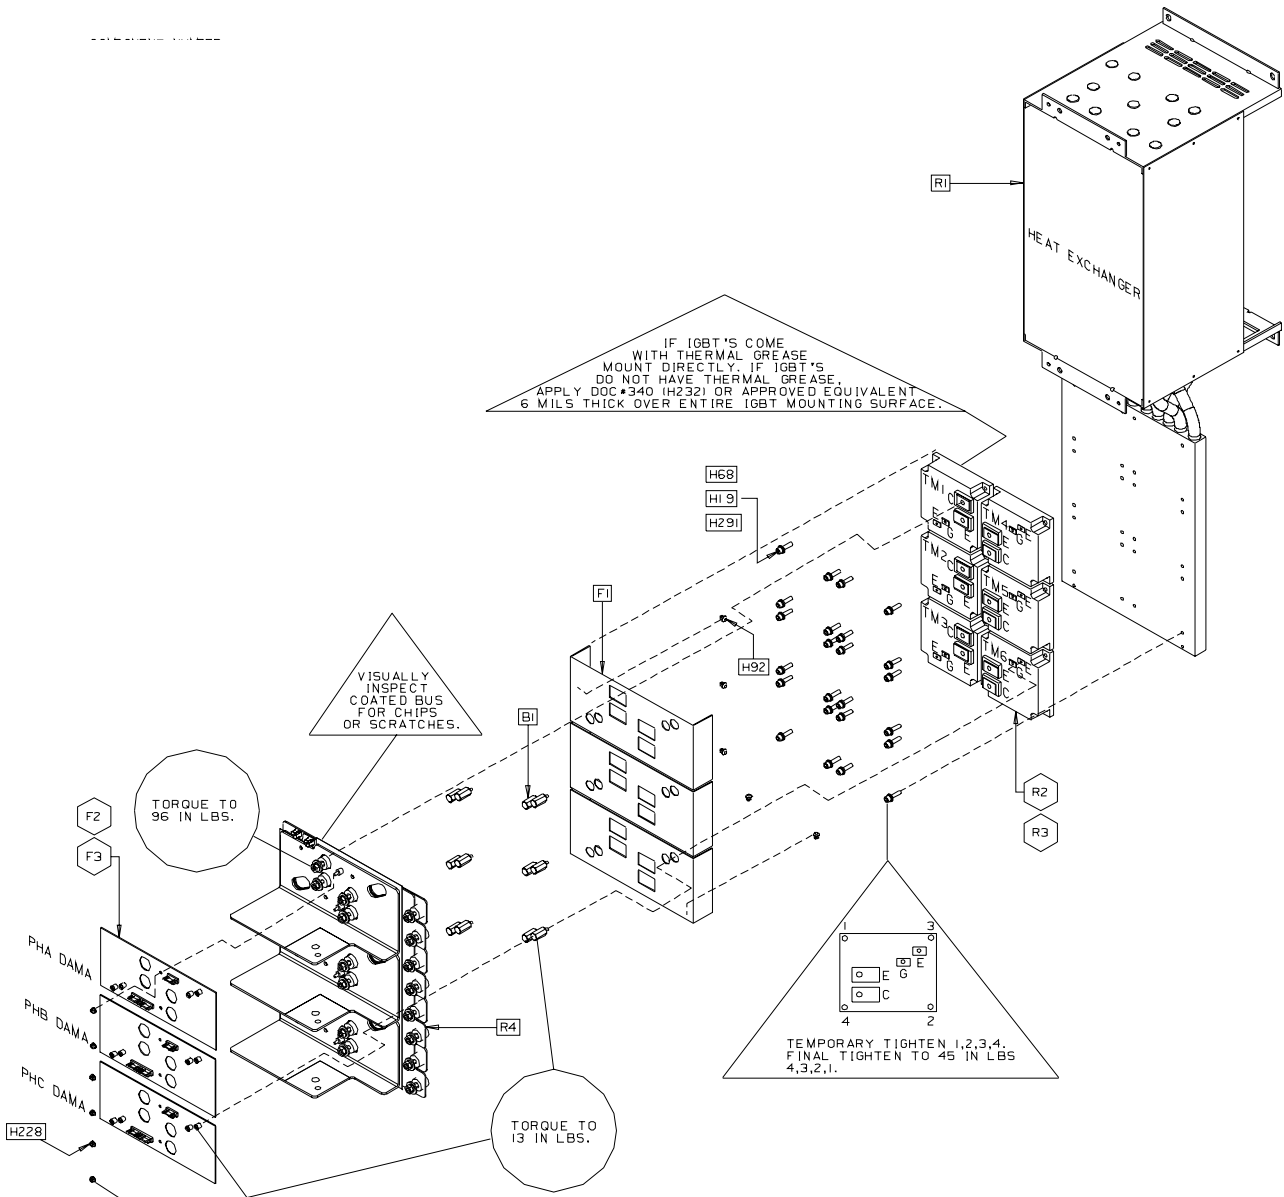

Figure 7-2. 620 Frame Heat Exchanger Assembly
4. Slide the DAMA boards off the IGBT stud connections (refer to Figure 7-2).
9. Remove the IGBT buses from the IGBT modules by sliding them over the stud connections (refer to Figure 7-2).
6. Install the standoffs and torque to 13 in-lbs (as shown on Figure 7-2).